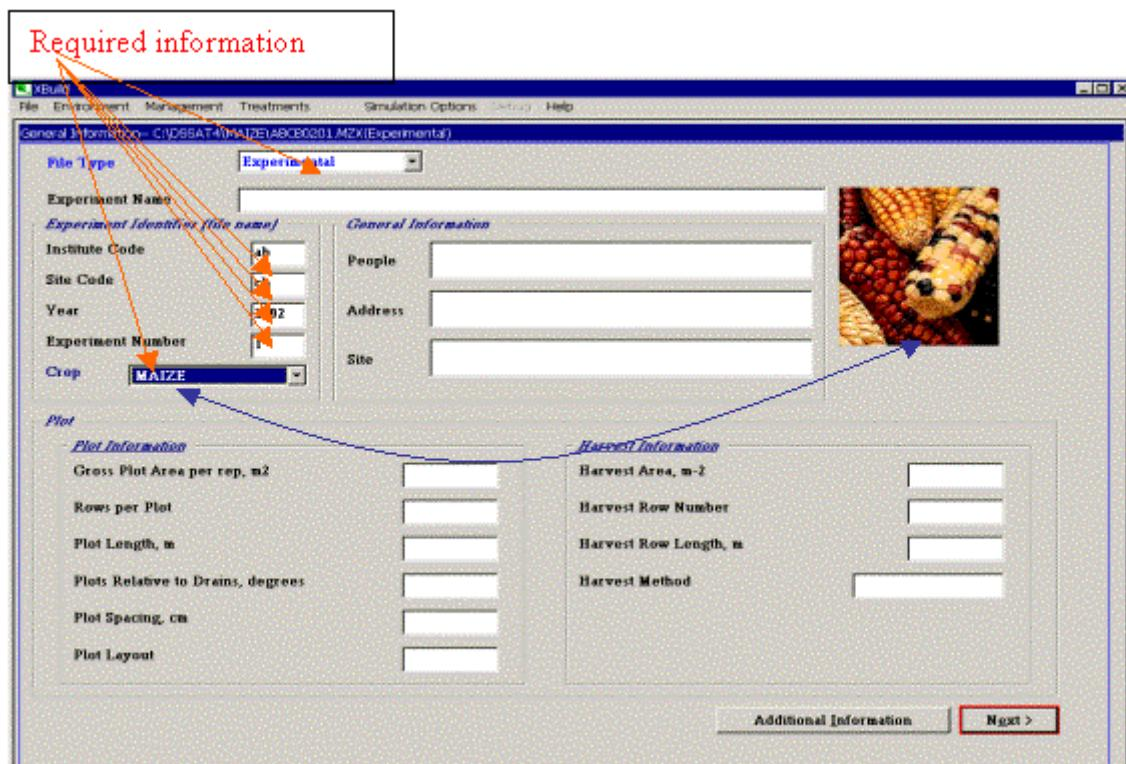

Figure 2. The first screen of XBuild that allows users to define general information, including the experimental file name.
2. Select **File Type** and fill in the text boxes for **Experimental Identifier** on the **General Information** screen. Fill in other information on the screen if desired. Click **Next** button. (Figure 2)